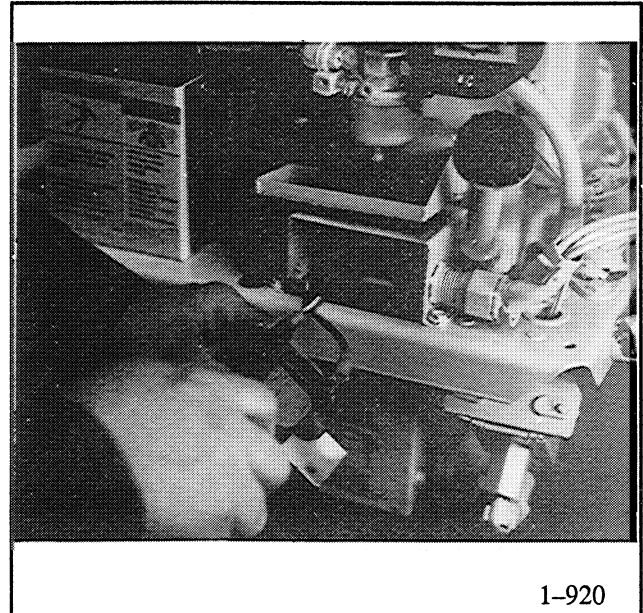

Figure 5-3. Disconnecting Line & Load Leads
4. Disconnect line and load leads. (Figure 5-3).